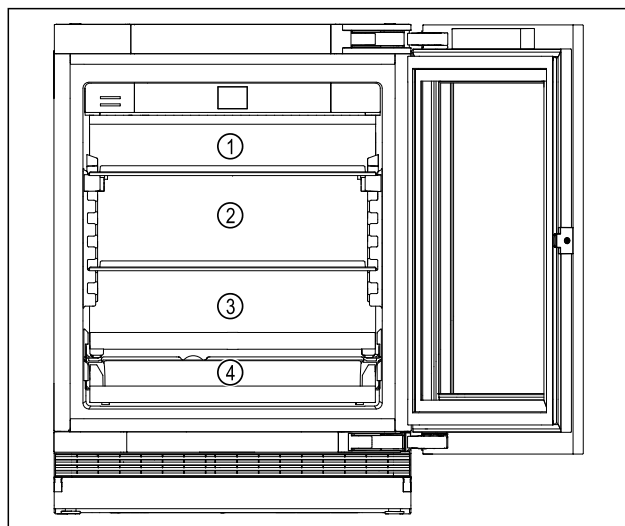

Fig. 5 Example illustration
- ▶ Upper area Fig. 5 (1): Store butter, cheese, tinned food and tubes.
- ▶ Middle area Fig. 5 (2): Store packaged fruit and vegetables, cakes and pies.
- ▶ Lower area Fig. 5 (3): Store particularly perishable foods such as ready meals, fish, meat and sausage products.
- ▶ Drinks shelf Fig. 5 (4): Store cans, smaller bottles.